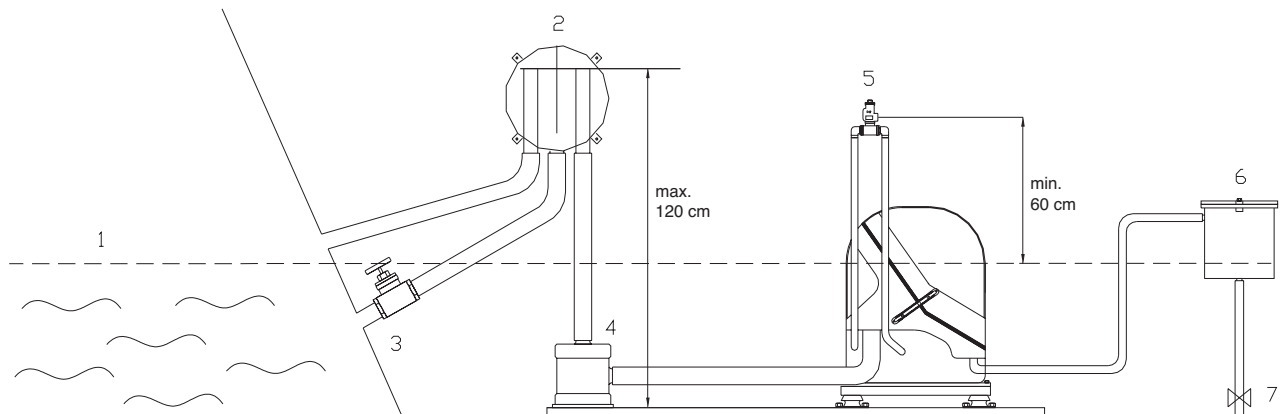

Figure 5: Internal cooling system
Use an appropriate water strainer with connections of 1/2" (12.5 mm). Install the water strainer in a well accessible position, (refer to figure. 5, ref 6) 2 to 4 inches (5-10 cm) above the waterline.